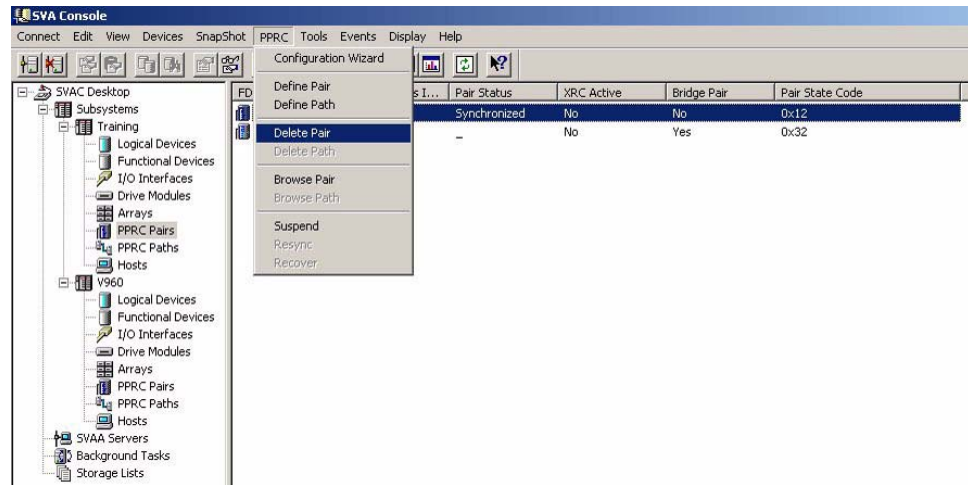

Figure 23 Deleting a PPRC Pair.
- From the SVAC’s PC, and using the Shared Virtual Array Administrator, select “PPRC Pairs” in the left part of the display as shown in Figure 23.
- Right-click on the undesired pair to highlight it and bring up the selection menu as shown in Figure 23.